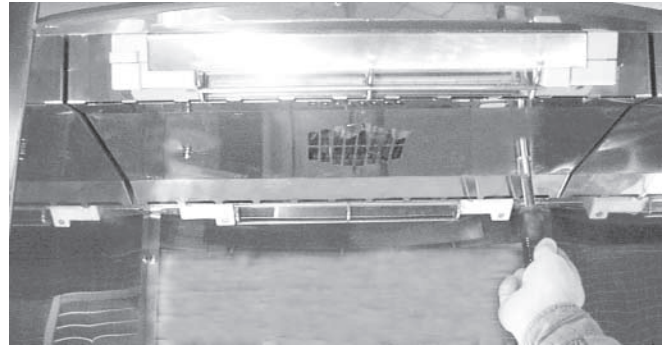

Fig. 35
1. Open door and remove rotor. Using a nutdriver, unscrew the $\frac{7}{16}$ " nuts on both sides of the vent-grate (Fig. 35).